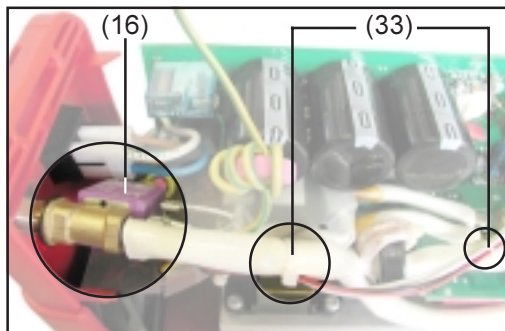

Fig. 6
- Cut through the cable binder (33)
- TP 1500 TIG: Pivot the gas solenoid valve (16) to one side (Fig.6)